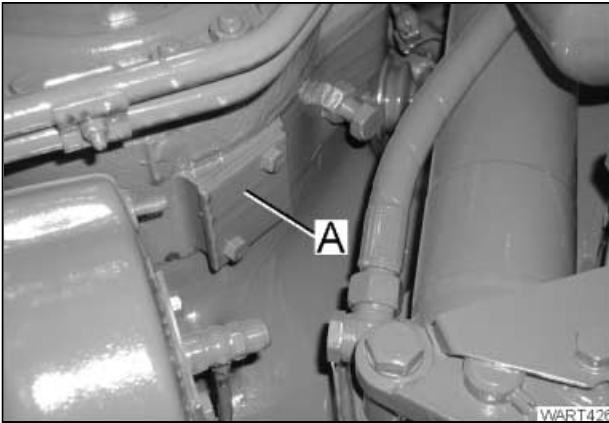

Fig.60
- Repeat process on the other side. Refit cover (A / CARE AND MAINTENANCE Fig. 60) with new gasket or sealing.